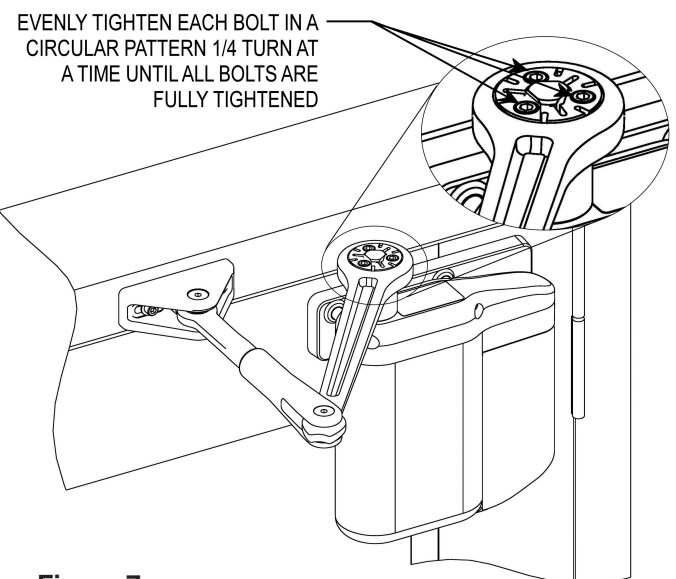

Figure 7
4. Refer to Figure 7, and, with the door arm coupling screws facing up, **POSITION** the larger end of the door arm onto the operator output shaft.